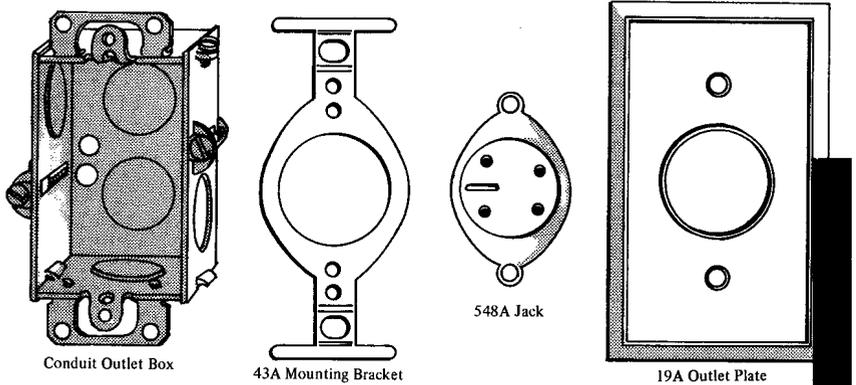

FIGURE 3. Installation Using Customer Installed Conduit Box (548A Jack)
- 2.01 The various types of jacks are divided into two categories, surface mounted jacks and flush mounted jacks. The surface mounted jacks are the 404B indoor jack (see Figure 1) and the 16151 outdoor jack (see Figure 2). The flush mounted jacks are the 548A indoor jack, with various outlet plates and mounting brackets (see Figures 3 and 4), and the 16152 outdoor jack (see Figure 5).
- a. The 548A indoor jack may be used in conjunction with a customer installed conduit outlet box as shown in Figure 3, or for prewiring in association with a type 60A mounting ring as shown in Figure 4. The jack accepts a 505A plug.
- (1) Secure the 43A mounting bracket to the front of the conduit outlet box with the two 1-inch flathead machine screws provided.
- (2) Bring the station wire out through the conduit outlet box and the 43A mounting bracket and connect to the rear of the 548A jack in accordance with the color code markings. Wrap any excess cord around the outside of the circular molded case.
- (3) Insert the 548A jack into the 43A mounting bracket and secure with the two 6-32 x 5/16-inch flathead screws supplied with the 548A jack. When installed in a conduit outlet box, the face of a flush type jack should be aligned with the supporting surface and brought forward a sufficient distance so that the outlet plate will not interfere with insertion of the plug. In order to secure a flush fit, it may be necessary to remove tabs as shown in Figure 3, or to place washers between the mounting bracket and conduit outlet box.
- (4) Attach the 19A outlet plate to the 43A mounting bracket with the two 6-32 x 3/8-inch ovalhead machine screws supplied with the outlet plate.